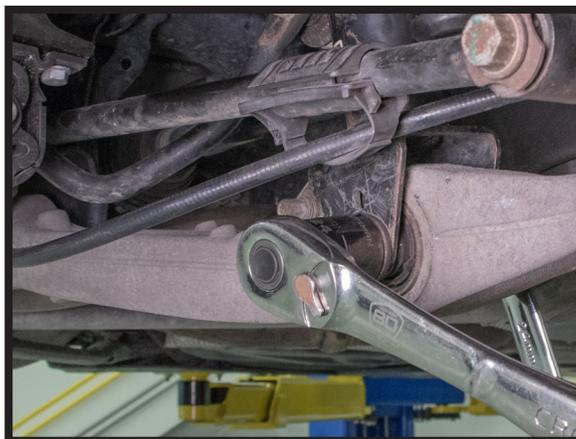

FIGURE 4
5. LOOSEN AND REMOVE THE LOWER SHOCK MOUNTING BOLT. (FIGURE 4)